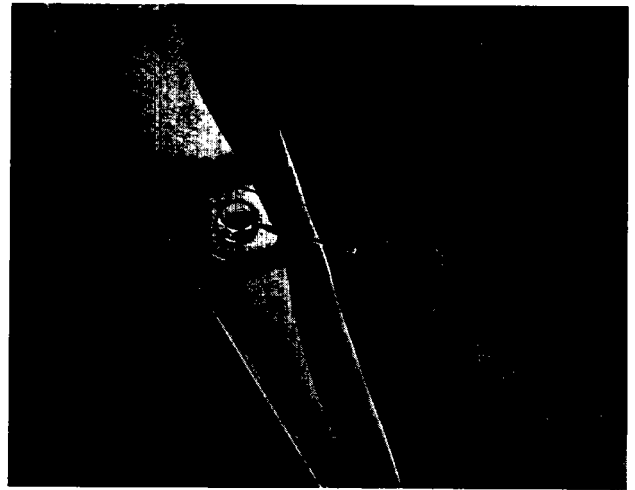

Fig. 7. Rear seat pan mounting points
- one each side of the front end of the rear seat pan (D) (Fig. 7);